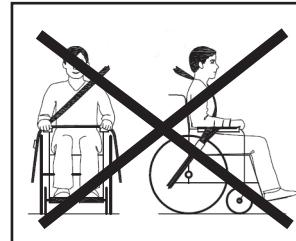

Figure 6
Backrest tubes (see fig. 6)
- The belt must not be resting against armchair components (like armrests or wheels) as a result of which it is no longer fully supporting the body of the user (see figure 6).